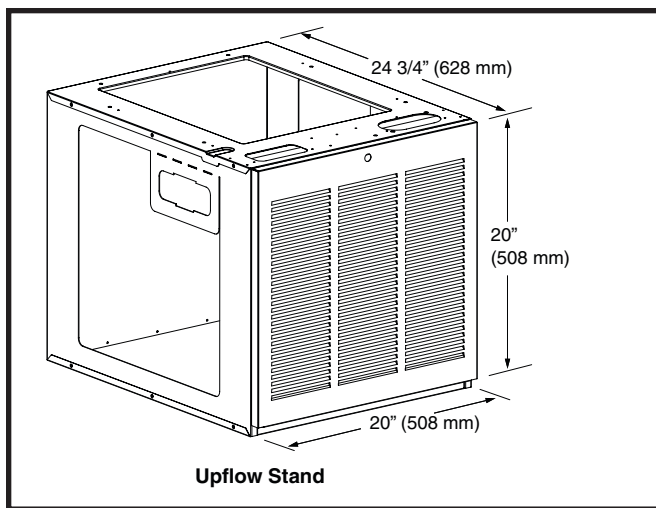

Figure 3. Optional Upflow Stand
- Stand (Figure 3 (page 6)) only uses filters that come in the box. The filter in the furnace must be removed and discarded. See instructions supplied with the upflow stand for additional details.